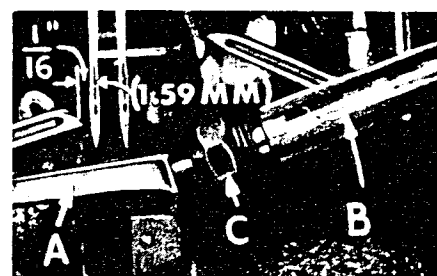

Fig. 5
At this point, insert lower looper (A, Fig. 5) into bar (B). With the lower looper at the left end of its stroke, set looper point  $1/16$  inch (1.59 mm) from center of left needle (Fig. 5), using looper gauge No. 21225- $1/16$ . Do not have lower looper deflecting needle. Tighten nut (C).